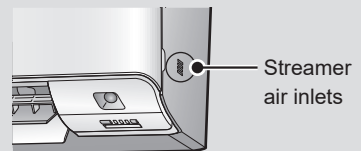

Fig. 1
- Do not block the air inlets of the streamer with any objects (**Fig.1**).